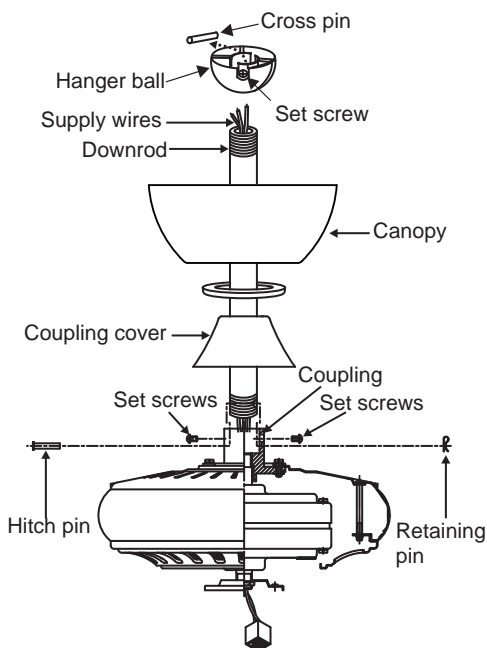

Fig. 9
Step 1. Remove the hanger ball from the downrod assembly by loosening the set screw, removing the cross pin and sliding the ball off the rod. (Fig.9)
Step 2. Loosen the two set screws and remove the hitch pin and retaining clip from the coupling on top of the motor assembly. (Fig. 9)